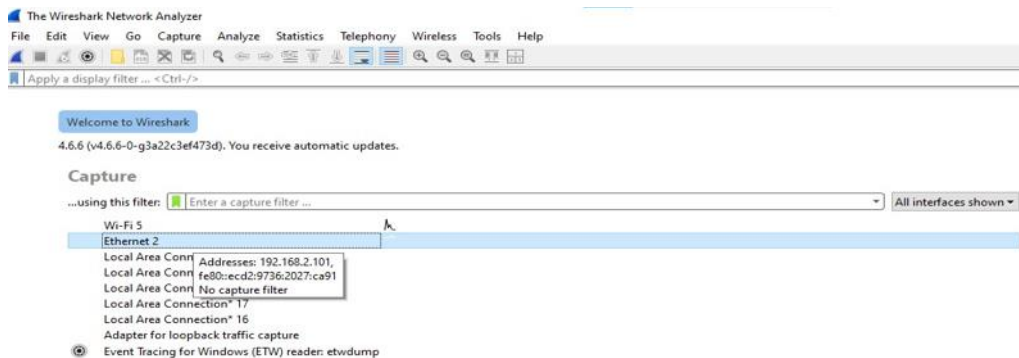

Figure 41: Wireshark Window for Ethernet selection
- 6 Select the Ethernet interface on Wireshark and double click on to start capturing packets as shown in Figure 41.